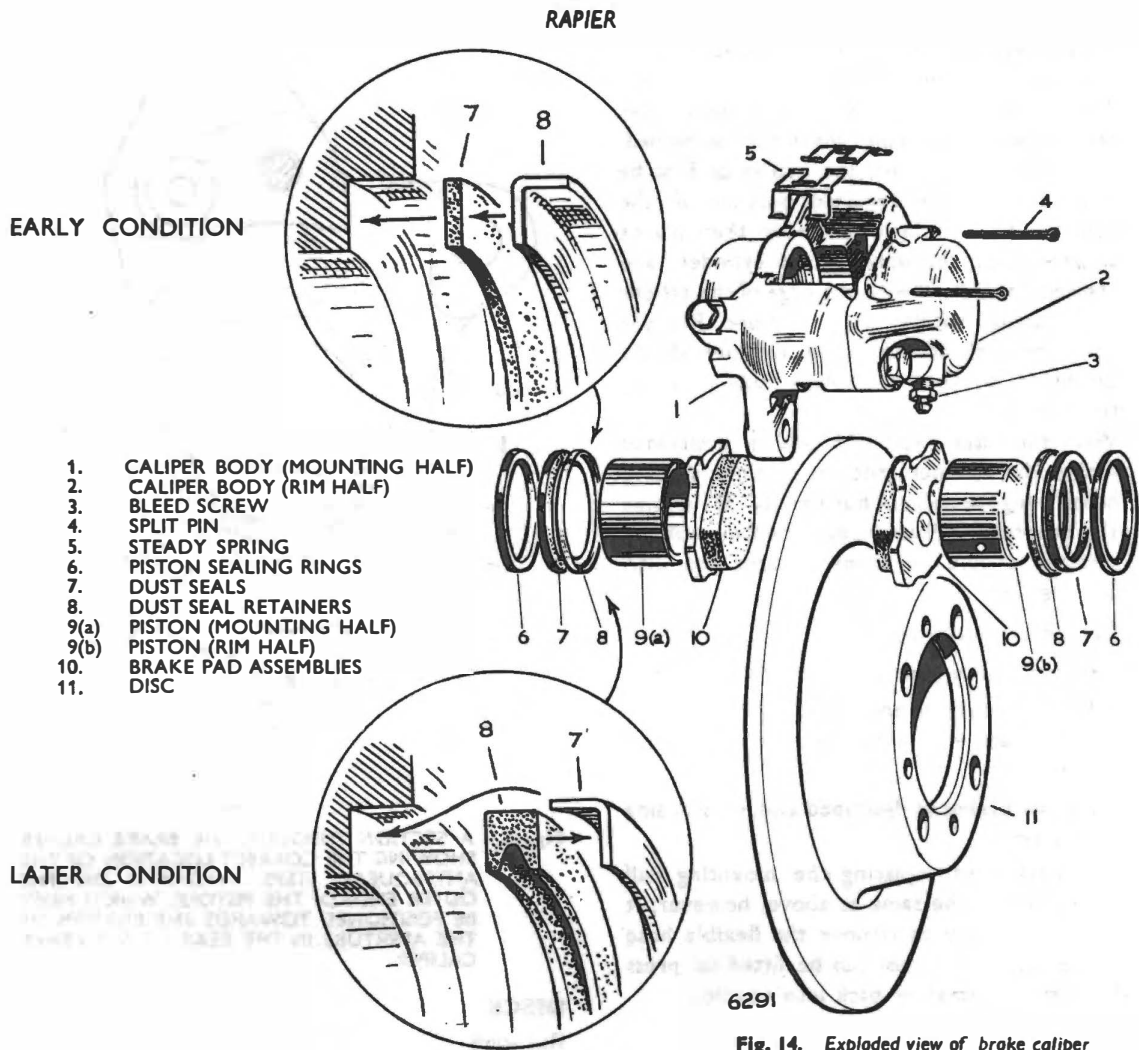

Fig. 14. Exploded view of brake caliper
**To remove** (See Fig. 14)
If the rubber sealing rings (item 6, Fig. 14) are worn or damaged, they should be replaced immediately. Before refitting seals, seal retainers and pistons, they should be coated with Lockheed Disc Brake Lubricant.
5. Retain the mounting half piston (item 9(a), Fig. 14) in its cylinder using special tool No. RG.331 carefully avoiding the brake hose.
6. Gently apply the footbrake until the rim half piston (item 9(b), Fig. 14) has been pushed out far enough to be removed by hand.
8. Remove the sealing ring (item 6, Fig. 14) by inserting a blunt screwdriver under the ring and prising it out. Take great care not to damage the locating grooves.
9. Should the dust seal (item 7, Fig. 14) require renewing, the dust seal retainer should first be removed by inserting the blade of a screwdriver between the retainer and seal and carefully prising out. The dust seal can then be lifted out. When renewing the dust seals, always fit new dust seal retainers.
12. Open the bleed screw (Item 3, Fig. 14).
With the later type, the seal is positioned within the retainer, and the retainer pressed home using special tool number RG 331 minus the adaptor. When fitted, the flange of this retainer should be facing towards the disc. See Fig. 14.